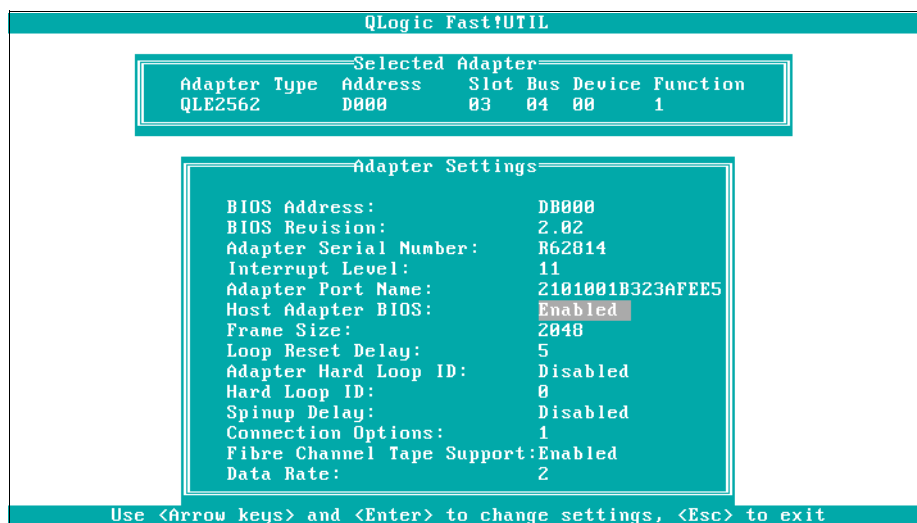

Figure 2-18 Enable FC BIOS
5. Change the Host Adapter BIOS to enabled (the default value is disabled), as shown in Figure 2-18.